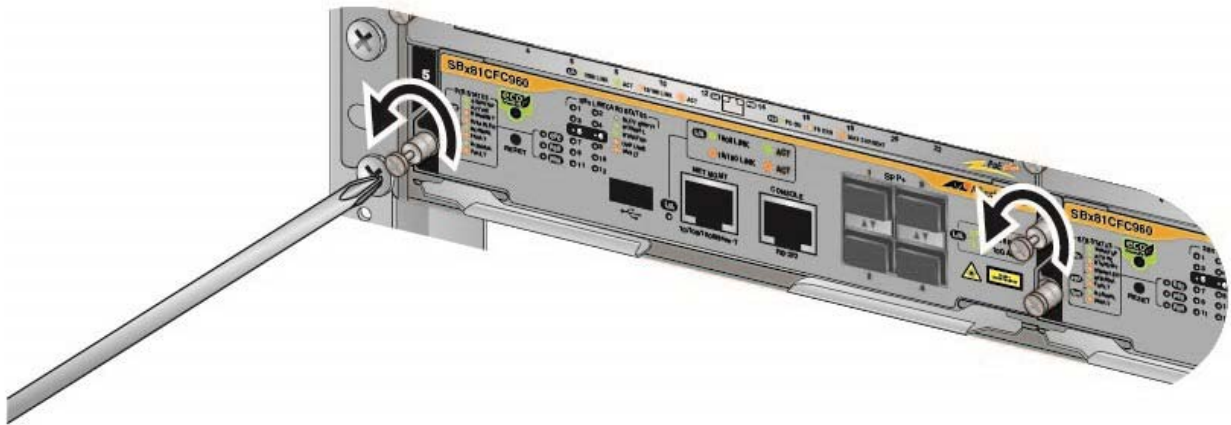

Figure 189. Loosening the Screws on the AT-SBx81CFC960 Controller Card
3. Use a #2 Phillips-head screwdriver to loosen the two screws on the faceplate of the card. Refer to Figure 189 on page 295.